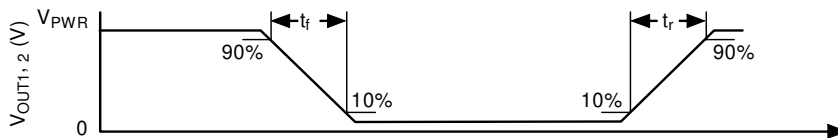

Figure 6. Output Switching Time
24. Rise Time is from the 10% to the 90% level and Fall Time is from the 90% to the 10% level of the output signal. See Figure 6, page 8.